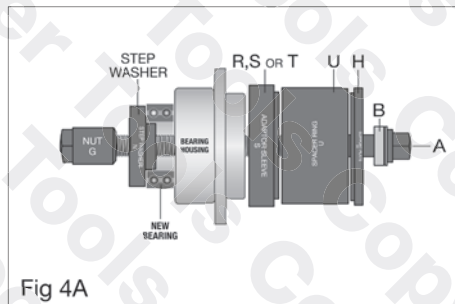

Fig 4A
1. Refer to **Figure 4A**: Select the largest step washer that best fits the new bearing and does not exceed the outer diameter of the bearing.